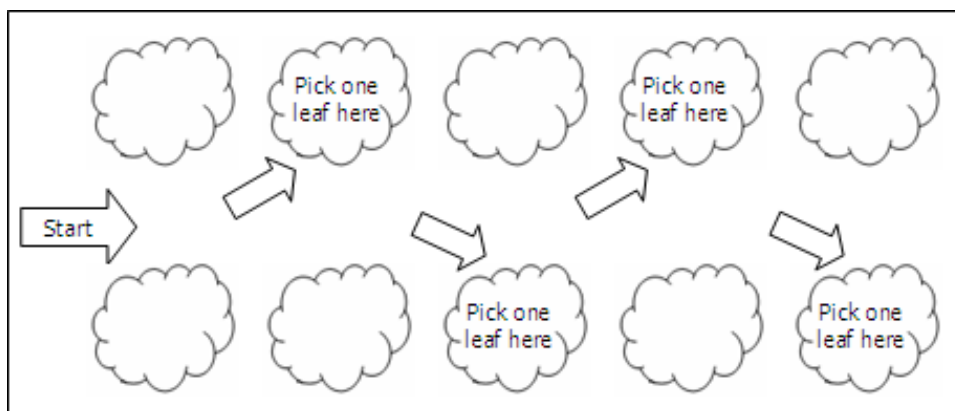

Figure 2.1: Leaf Sampling
- Enter the path between two of the rows in the index block and pick leaves from every second tree on the left and right, as illustrated in figure 2.1.